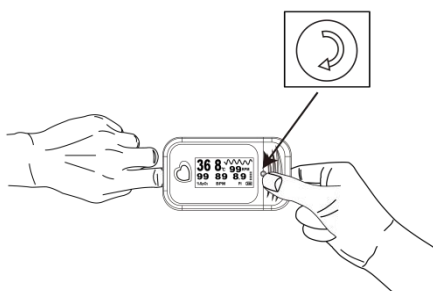

Figure 6
1) Press the Screen turn switch, See figure 6.